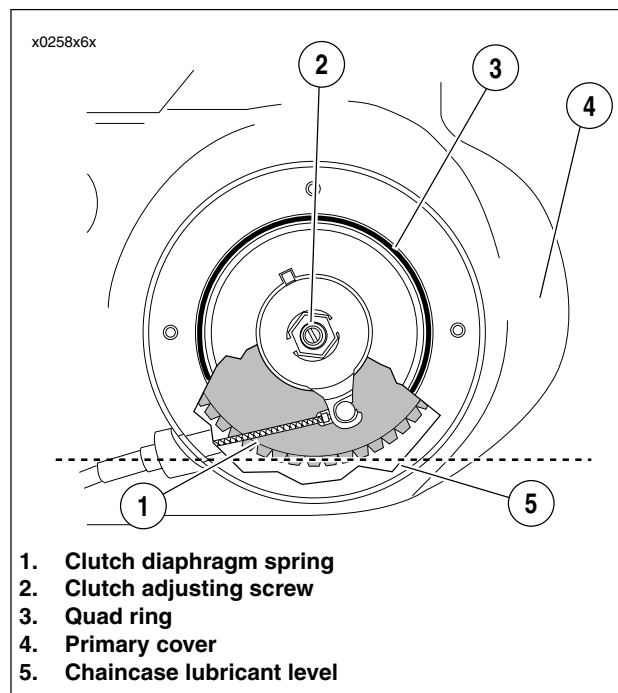

Figure 1-24. Chaincase Lubricant Level
6. See Figure 1-24. Verify that lubricant level (5) is even with bottom of clutch diaphragm spring (1).